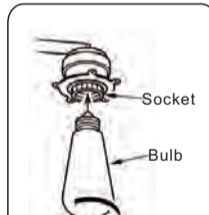

Fig.22
Step 3. Install the bulbs.(Fig.22)